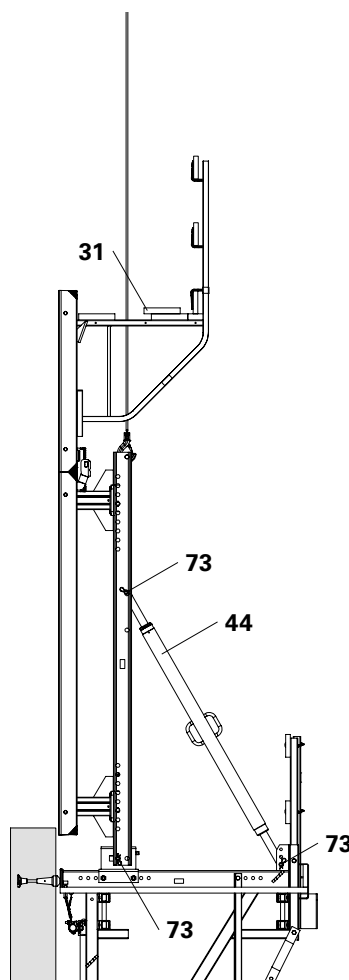
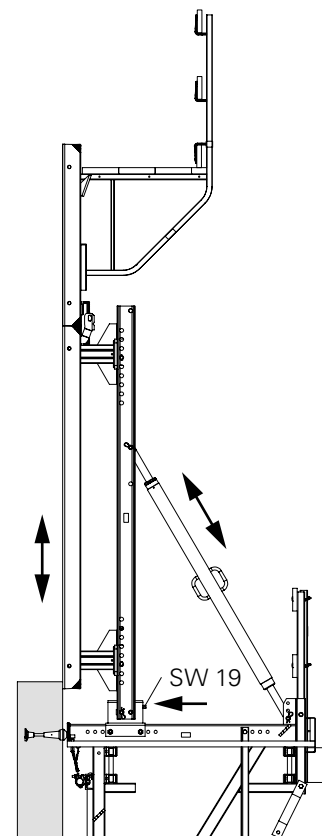

Fig. B2.17c
Fig. B2.17d
5. Fix Adjustable Brace CB 164-224 (44) to the bracket using Bolts \varnothing 25 x1 80 (73) and Cotter Pins 4/1. Spindle out to approx. length and attach to Strongback CB (70). (Fig. B2.17c)
6. Detach lifting gear. Close decking (31) on the concreting platform.
7. Turn sliding block (16.2) of the Adjusting Unit CB with formwork to the wall, SW 19. (Fig. B2.17d)
8. Align formwork, see B3. (Fig. B2.17d)